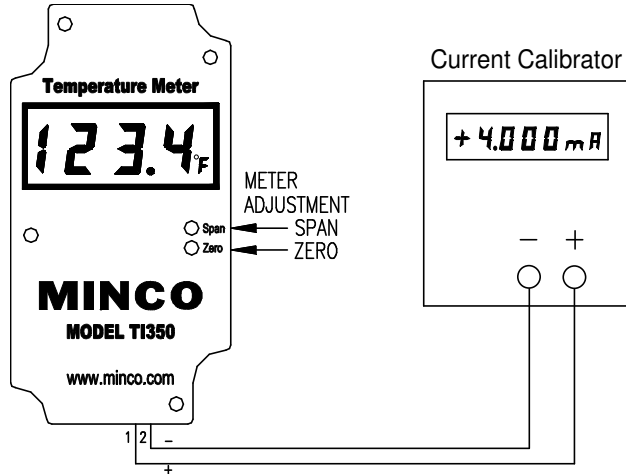

Figure 3
1. Hook-up the equipment as shown in the **Figure 3**. Pull terminal block from PC board, connect wires to block, then re-plug block into board.